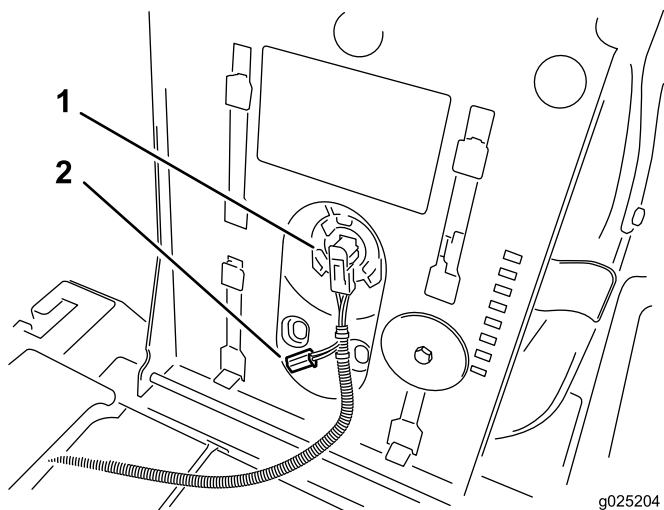

Figure 1
2. Unplug the harness connector from the seat switch located under the seat (Figure 1).
7. Using the connector previously not used in the harness, plug the connector into the seat switch located under the seat (Figure 1).